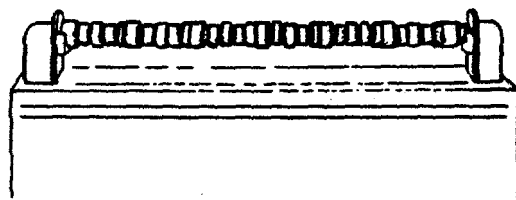

FIGURE 4-62a. Camshaft Head Shot Check.
- (1) Set up magnaglo tester for head shot method using instructions provided on tester. Adjust test to 2000 ampere dc or rectified ac (FIG. 4-62a).
- (2) Apply wet bath solution to area being checked. Do not wet more than 1/3 of the camshaft at a time. Continually wet the area while applying voltage from the tester.
- (3) Use black light supplied with tester to check camshaft for cracks.
- (4) Set up magnaglo tester for coil shot method. Use the 12 inch (305 mm) coil supplied with the tester.